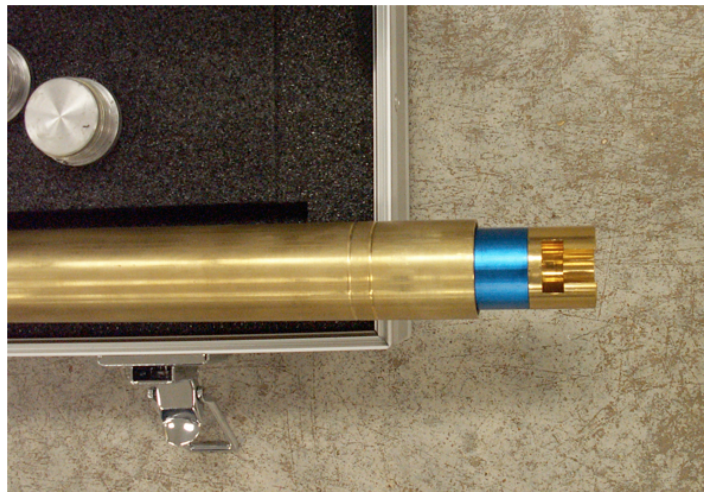

Figure 9A: Insert the tool into the pressure case's open end as shown (keyway out)
8. The tool is now ready to go. Place it in its brass pressure case, snug up the end pieces and turn it over to the Core Tech (Figure 9A-B).